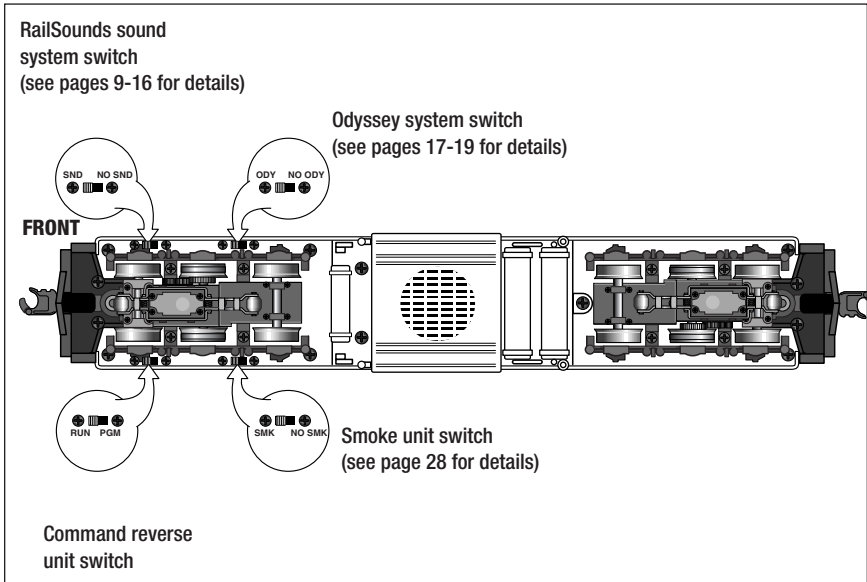

Figure 1. Switch locations
To “lock” your locomotive into a single direction (for example, to operate in forward only), you can deactivate the Command reverse unit’s sequencing function. Refer to Figure 1 for the location of the Command reverse unit switch.
1. Slide the Odyssey switches to the ODY position. Refer to Figure 1 on page 7 for the location of the switch.